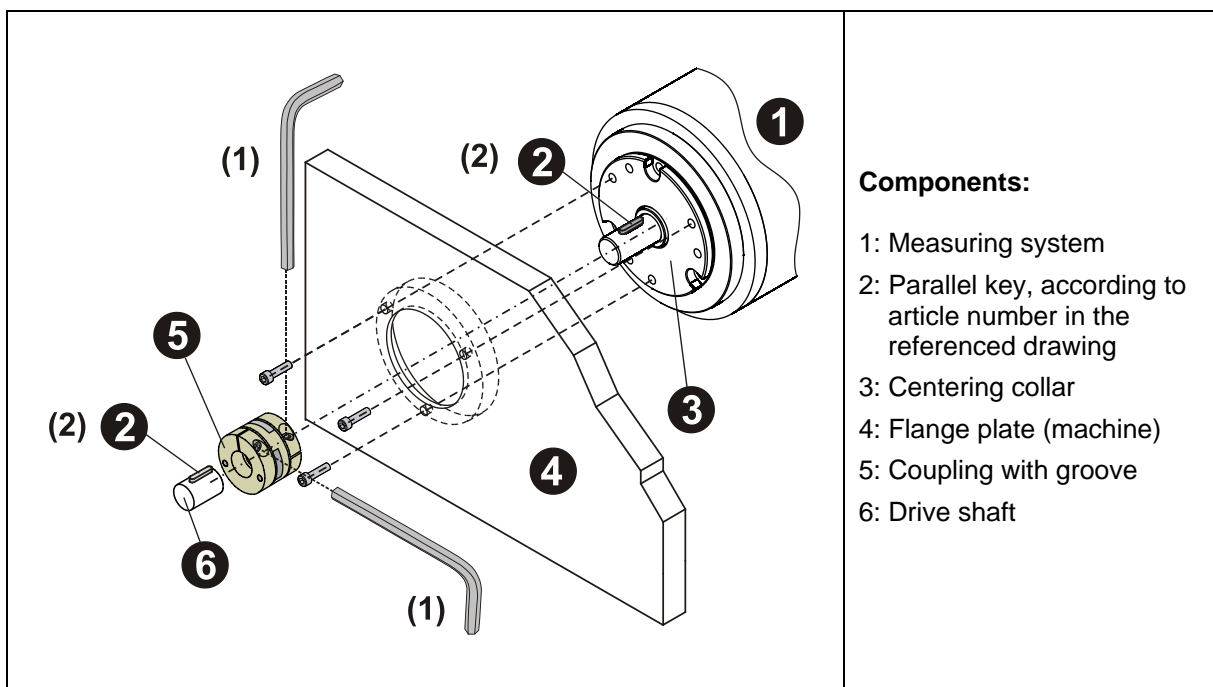

Figure 4: Installing the flange, illustration showing the principle
- Axial slipping of the measuring system on the drive shaft must be prevented by fixing the coupling in position, see Chapter: 5.1.2 Figure 4, (1).
- Radial slipping of the measuring system on the drive shaft must be prevented by a form-locking connection, using a parallel key / groove combination (Chapter: 5.1.2 Figure 4, (2)); a coupling with groove must be used for this purpose.